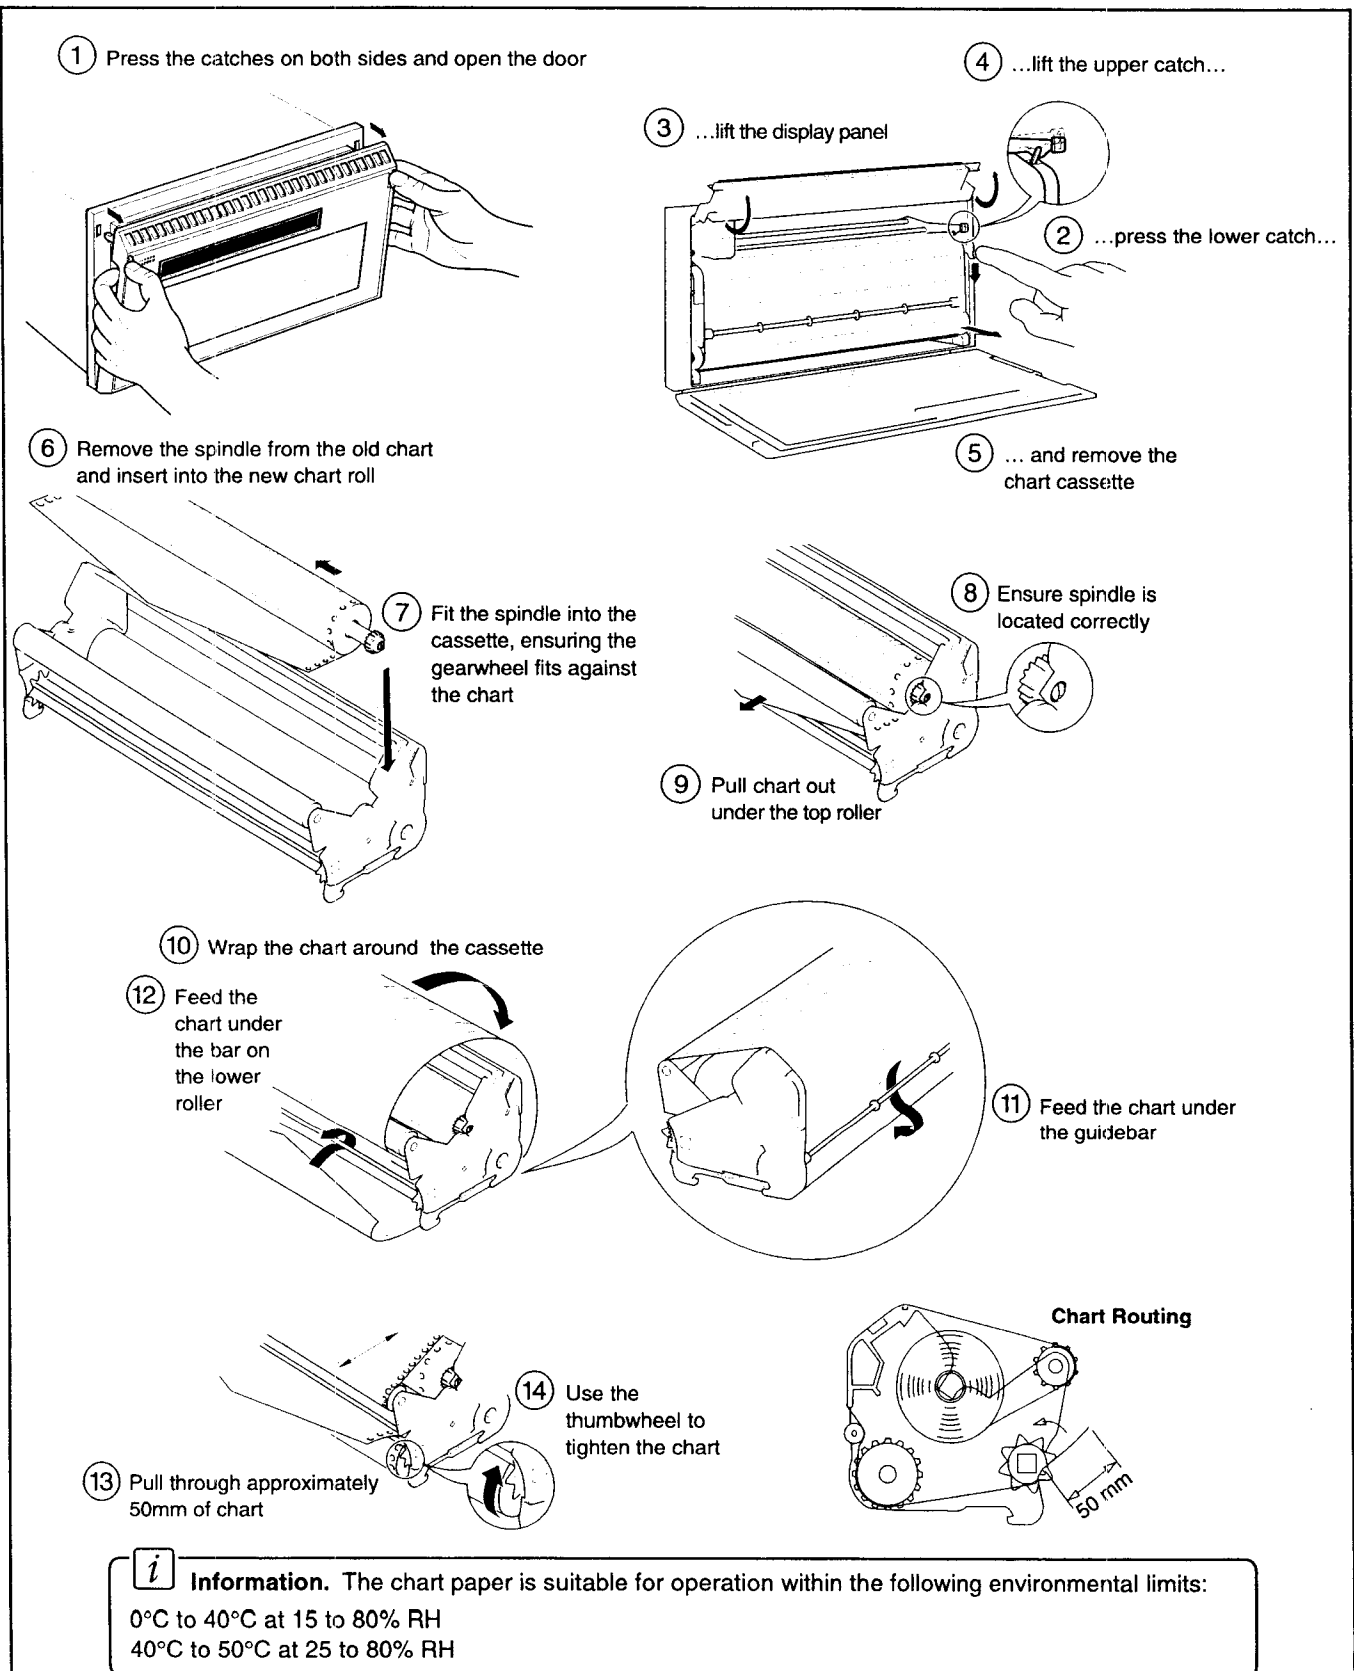

Fig. 1.2 Loading a Roll Chart
- Load the new chart ..... Page 5 – see Fig. 1.2
## ...1.1 Loading a Chart – Fig. 1.2
Remove the old chart and load new chart paper – see Fig. 1.2.